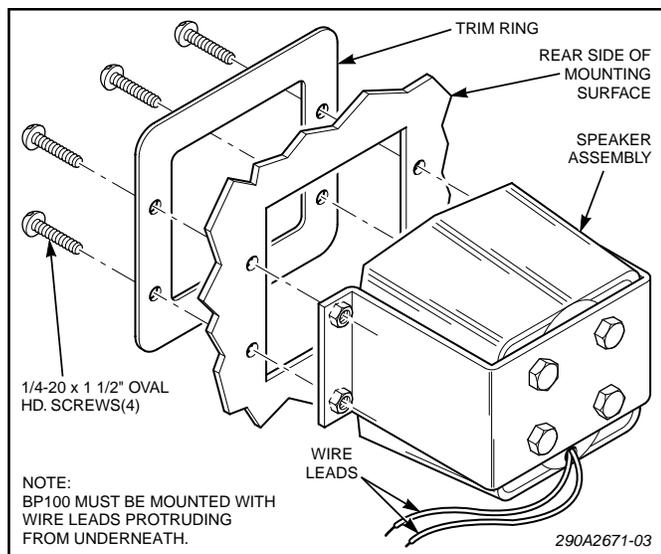

Figure 1.
2. See figure 1. Use the trim ring as a template and position it on the mounting surface so the speaker will be installed with the wire leads protruding from the bottom. Mark the four mounting hole locations and the center rectangular hole location.
5. See figure 1. Place the speaker in position on the rear side of the mounting surface. Place the trim ring in position and secure the assembly in position using the supplied four 1/4-20 x 1-1/2" oval head screws.